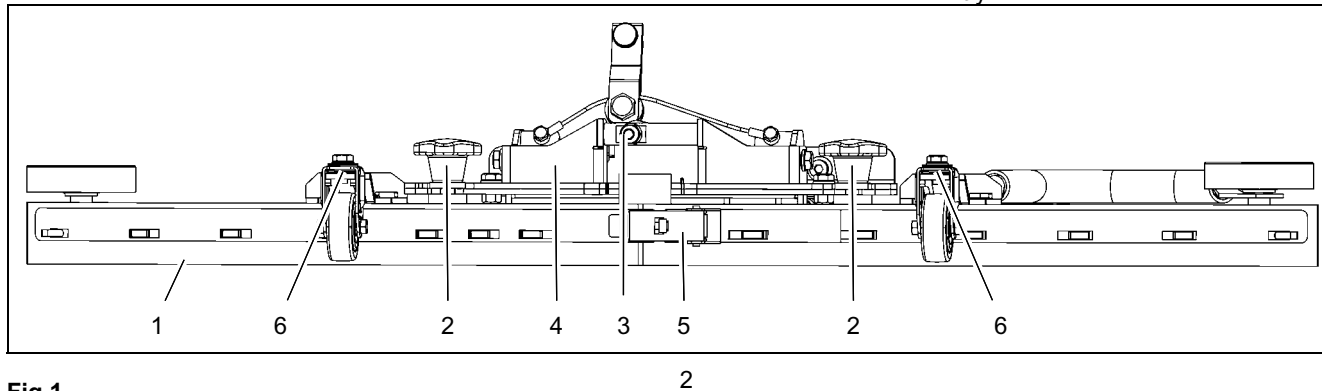

Fig.1
Check the squeegee (Fig. 1/1) daily and clean as necessary.
To clean it lift the squeegee out, pull off the suction hose (Fig. 1/4), loosen the two star-shaped knobs (Fig. 1/2) and remove the squeegee.
Check the inner and outer sealing strips on the squeegee (Fig. 1/1) weekly for signs of wear. The sealing strips can be used fourfold by turning them.
3. Unlock the fastening device (Fig. 1/5) and remove the outer sealing strip. Turn the sealing strip or install a new one, as necessary. Change the inner sealing strip in the same way.
2. Loosen the counternut on the screw (Fig. 1/3) and adjust the squeegee using the counternut so that the ends of the sealing strips still have contact with the floor.